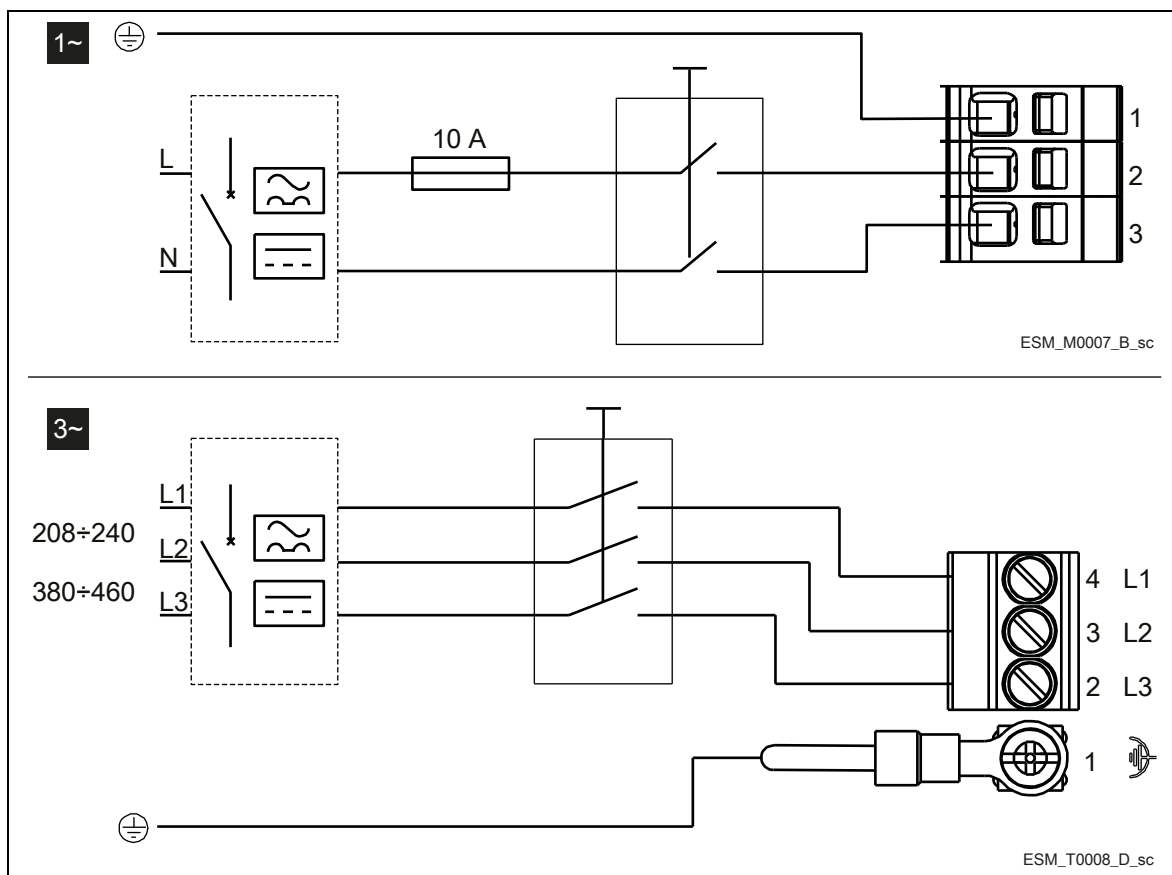

Figure 12: Wiring diagram
2. Insert the power cable in the M20 cable gland (5)
3. Connect the cable according to the wiring diagram.	Fig. 12